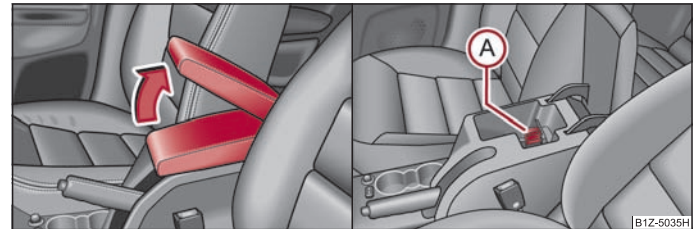

Fig. 75 Armrest: Storage compartment/cooling of storage compartment
- Open the lid of the armrest in the direction of arrow ⇒ fig. 75 - left.